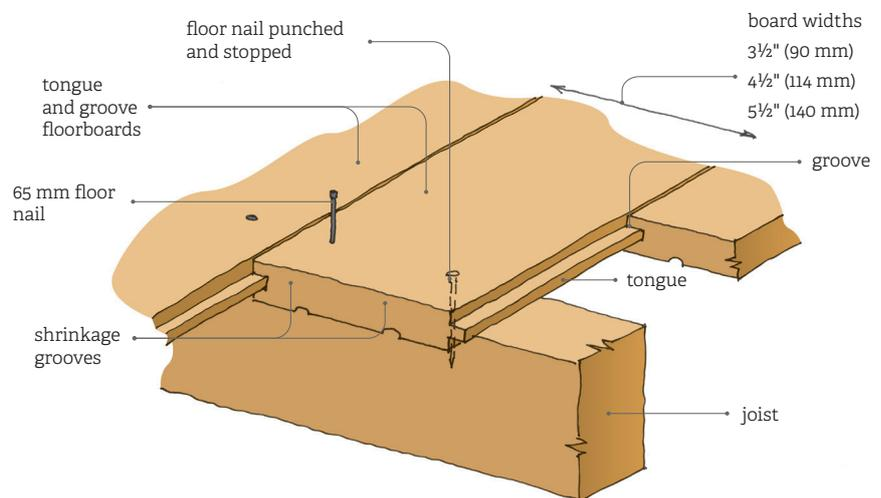

Figure 1: Common tongue and groove floorboards face nailed.
- secret nailed where nails are angled through the tongue and hidden by the next board – see Figures 1 and 2.